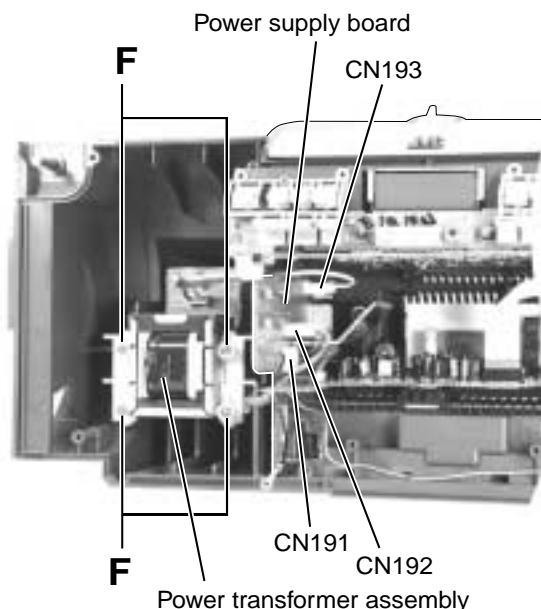

**Fig.9**
■ **Removing the tuner board (See Fig.9)**